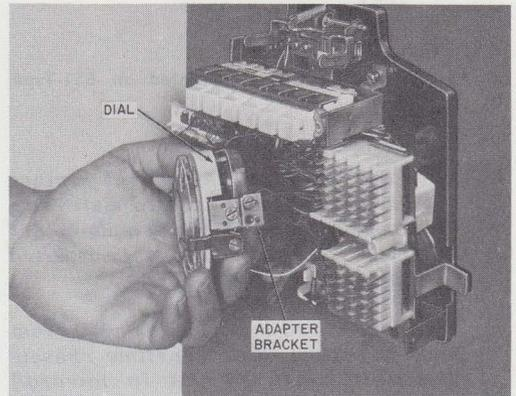

**Fig. 10—Exclusion Switch Installed and Hinged Chassis Mounting Screws (Early Version)**
**3.02** The telephone set should be mounted before installing the modular items. To expose the mounting holes, the hinged chassis assembly must be lowered by loosening the captive screws (Fig. 10) holding the top of the chassis. For ease of installation the chassis assembly can be removed from the base pan by springing the hinged brackets sufficiently to clear the pins. The base pan can then be mounted directly to the wall using the keyhole slots, or holes are provided for mounting over an electrical outlet box.
- (1) With chassis in lowered position, fasten switch assembly to line switch bracket using screw provided in kit. Screw must be inserted in hole from rear of bracket.
- (2) Position switch assembly horizontally (Fig. 10) and fasten securely.